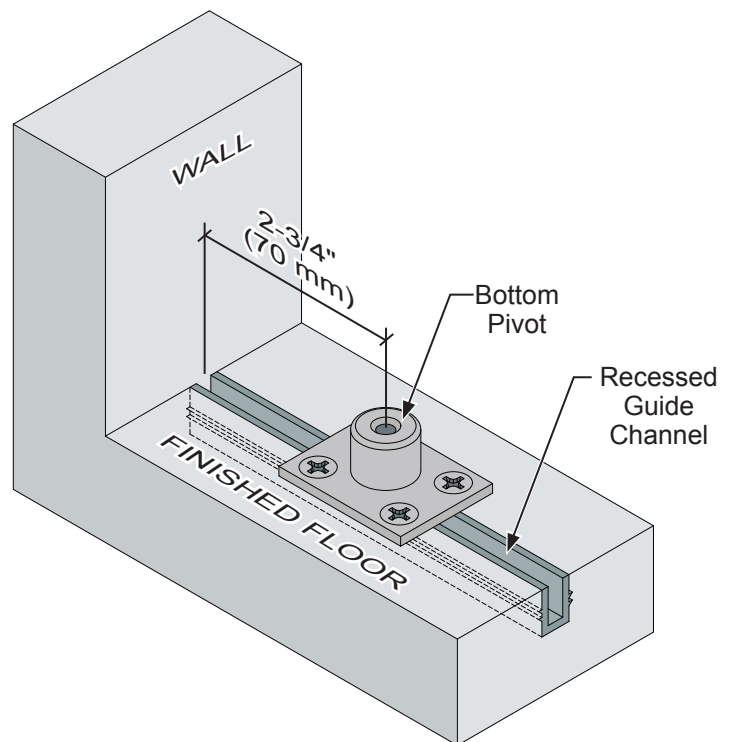

Fig. 5
2. The bottom pivot is installed into the finished floor 2-3/4" (70 mm) from the wall and on the centerline of the guide channel. **(Fig. 5)**